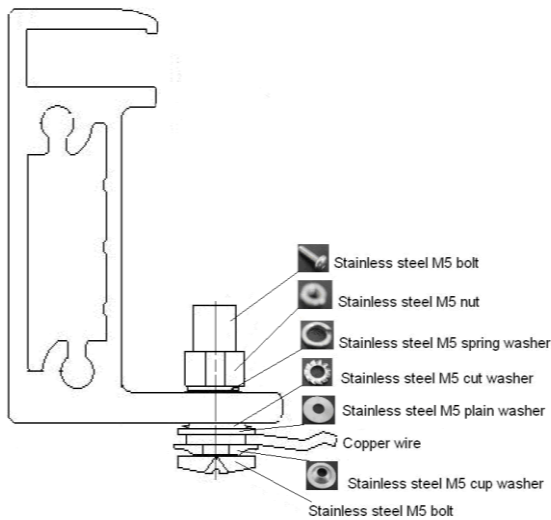

Fig. 9 Grounding the aluminum frame with copper wire
The PV modules are designed with an anodised, corrosion-resistant aluminum alloy frame as a rigid support. To ensure safety and to avoid lightning strikes and electrostatic damage to the PV modules, the PV module frame must be earthed. The earthing device must be in full contact with the interior of the aluminum alloy of the frame, penetrating the surface oxide film. The following is a specific earthing method, as shown in Fig. 9.
- Use the marked 5.5 mm grounding holes to ground the anodized frame. Use one M5 nut, two M5 cut washers, one M5 plain washer, one M5 spring washer, and one M5 bolt and the copper wire. All nuts, bolts, and washers shall be of type M5 and made of stainless steel (Fig. 9).